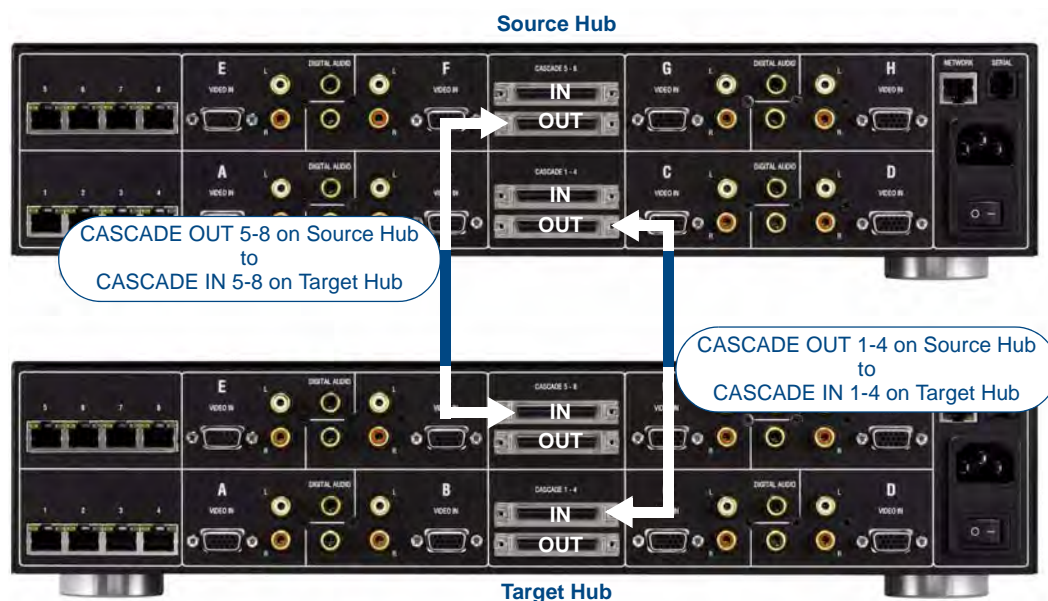

FIG. 71 Two Cascaded UDM-0808-SIG Hubs
1. Attach one end of the UDM Cascade cable to the **CASCADE OUT** port on the Source Hub. The Source Hub provides the video source that will be cascaded to the Target Hub (FIG. 71).